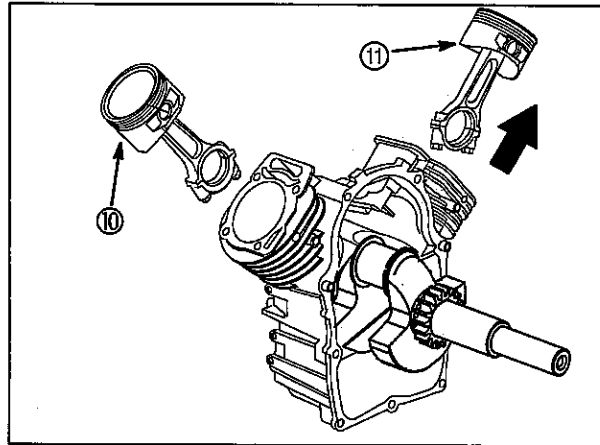

Fig. 27
2. Push connecting rod and piston assembly (11) out of #2 cylinder (arrow), Fig. 27. Reassemble cap to rod to prevent interchanging.
3. Repeat for #1 cylinder (10).